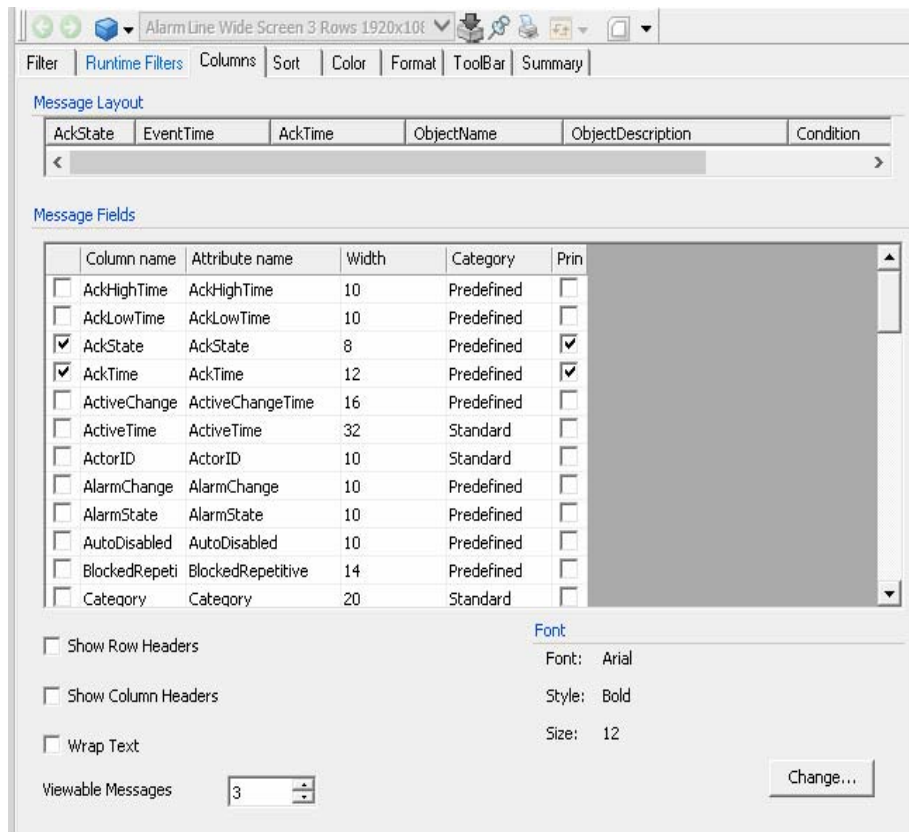

Figure 35. Common Alarm Line Wide-Screens - Alarm and Event List Configuration
- Configure the Alarm Line by opening the **Alarm and Event List Configuration** aspect (located in the **Library Structure** below the Wide Screen Configurations object) and make your settings. See Figure 35.